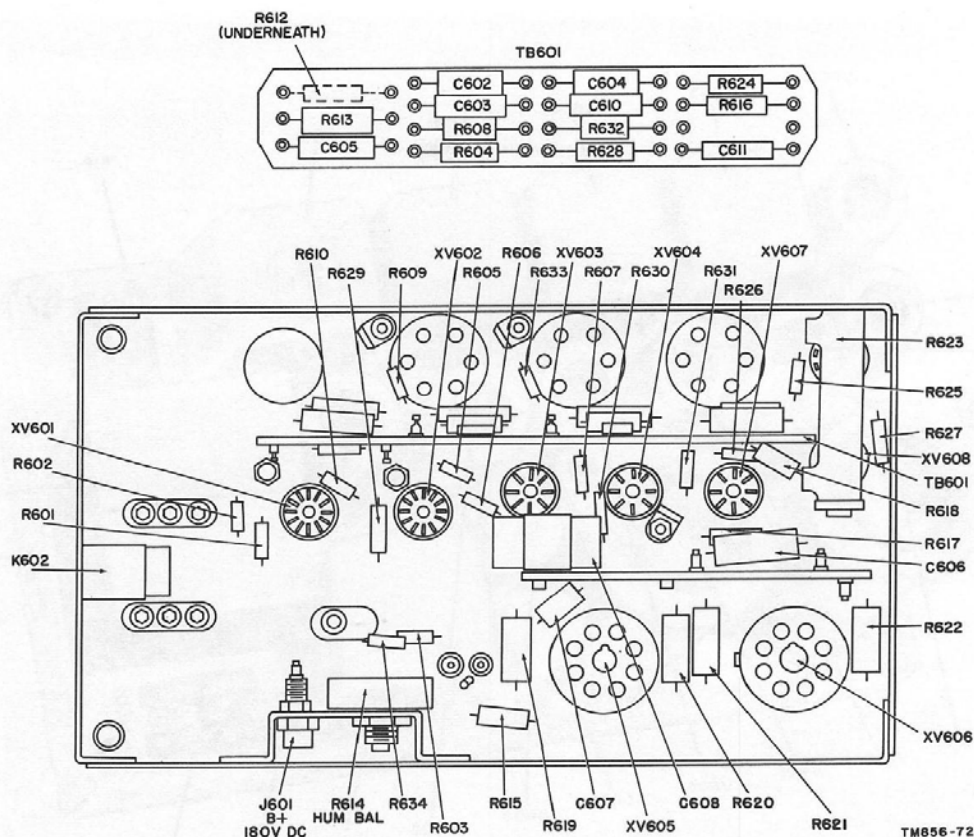

Figure 75. Af subchassis, bottom view.
XV603 (fig. 75). Listen to the signal from a headset or speaker connected to the local audio output. The volume should be very low. If no signal is audible, check the connections to output transformer T602, and test capacitor C604 for a short circuit (fig. 75).
b. *Pin 1 of V603 (Grid of Local Af Output Tube).* Apply the signal to pin 1 of tube socket XV603. Listen for an increased output over that obtained in the preceding step (a above). If no signal is audible, test the tube and the voltages at the socket pins. When the signal is distorted or when there is a positive dc voltage on the control grid with respect to the chassis, test capacitor C603 for leakage (fig. 75).
c. *Pin 1 of V602 (Plate of Local Af Amplifier).* Connect the output of the generator to pin 1 of tube socket XV602 (fig. 75). If the signal output decreases, test capacitor C603 (fig. 75).
a. *Pin 5 of V604 (Plate of Line Af Output Tube).* Insert the audio-oscillator signal at pin 5 of tube socket XV604 (fig. 75). The volume
should be very low, as heard in the headset. If no signal is audible, check the leads to output transformer T603. The center leads of the secondary winding must be connected by a jumper between terminals 11 and 12 of the rear terminal strip (fig. 22). Test capacitor C611 (fig. 75).
b. *Pin 1 of V604 (Grid of Line Af Output Tube)*. Apply the signal to pin 1 of tube socket XV604. The output signal should be much louder than that obtained in the previous step (a above). If the output is unsatisfactory, check the tube and the voltages at the tube socket pins (fig. 83). If the grid bias is incorrect, as indicated by distortion or excessive plate current, check capacitor C610 for leakage (fig. 75). Check the operation
c. *Pin 6 of V602 (Plate of Line Af Amplifier)*. Apply the audio-oscillator signal to pin 6 of tube socket XV602 (fig. 75). Rotate the LINE GAIN control fully on. If the signal output decreases noticeably, test capacitor C610 (fig. 75).
a. *Pin 6 of V601 (Plate)*. Introduce the signal from the audio-oscillator at pin 6 of tube socket XV601 (fig. 75). Set the AUDIO RESPONSE switch to MED. The signal output should be somewhat less than that obtained when the signal was applied to pin 7 of V602. If no signal is heard, or if the signal is weak, check capacitor
C602 (fig. 75) for a short circuit, and check the connections to the AUDIO RESPONSE switch.